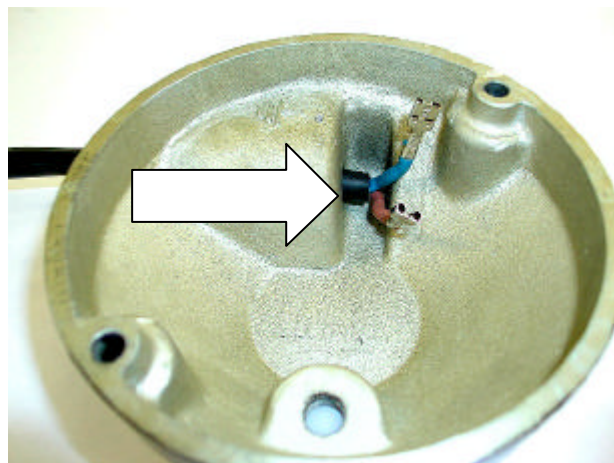

Fig. 15. New power lead and cable gland assembly.
- Assemble the cable through the cable entry hole in the bottom cover casting (2) until the outer sheath projects approximately 5mm into the inner chamber of the bottom cover. See **Fig. 15**.